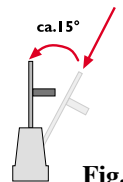

Fig. 10
2. Insert the card at an angle of approx. 15° so that it fits properly into the socket. Press the card between the clips so that it is secure in the base (Fig. 10).